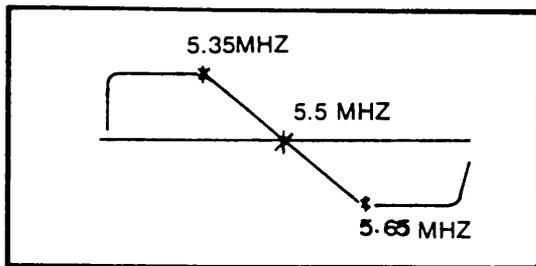

Fig 5. 5.5MHz SIF Response Curve
- 5) Adjust L602 to balance as shown Fig 5.